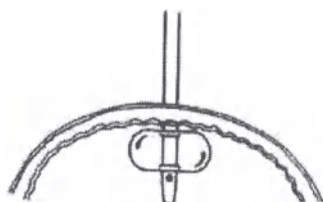

Fig. 1
11. Withdraw the balloon catheter until the balloon meets the resistance of the bladder dome (Fig. 1).